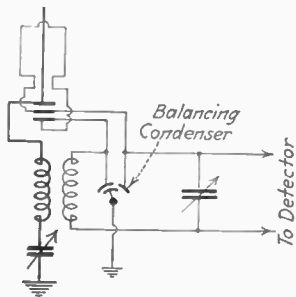

FIG. 52.—Elementary wiring diagram of direction finder.
*Ans.* An elementary diagram of a direction finder is shown in Fig. 52.
The loop circuit is shown by the light lines in Fig. 52; the heavy lines indicate the antenna circuit.
To improve the operation of the radiocompass, therefore, the *antenna effect* must be compensated for. This is done by connecting a balancing condenser across the loop and ground as shown in Fig. 52. This condenser may be adjusted to a point where the *antenna effect* is neutralized and a sharp *null point* obtained.